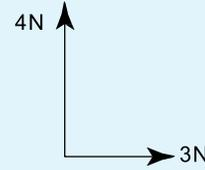

Figure 4.31
8. The magnitude of the resultant of the vectors shown in Figure 4.31 is: